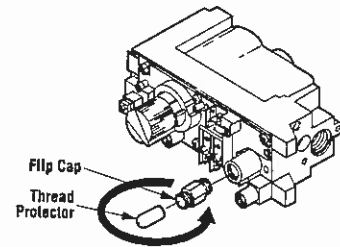

Figure 25
Step 5. Honeywell Systems - See *Figure 25* and the instructions provided with the kit. Remove the black thread-protecting cap. Remove the conversion flip cap by turning it counter-clockwise. Invert the flip cap so that the letters associated with the desired gas type are positioned closest to the valve body.